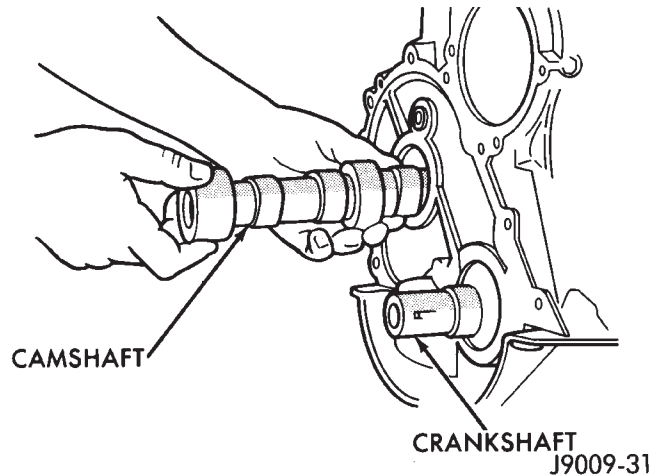

Fig. 43 Camshaft
- (11) Remove the vibration damper.
- (12) Remove the timing case cover.
- (13) Remove the timing chain and sprockets.
- (14) Remove the front bumper and/or grille, as required.
- (15) Remove the two thrust plate retaining screws, thrust plate and camshaft (Fig. 43).
- (1) Inspect the cam lobes for wear.
- (2) Inspect the bearing journals for uneven wear pattern or finish.
- (3) Inspect the bearings for wear.
- (4) Inspect the distributor drive gear for wear.
- (5) If the camshaft appears to have been rubbing against the thrust washer, examine the oil pressure relief holes in the rear cam journal. The oil pressure relief holes must be free of debris.
- (6) Lubricate the camshaft with Mopar Engine Oil Supplement, or equivalent.
- (7) Carefully install the camshaft to prevent damage to the camshaft bearings (Fig. 43).
- (8) Position the thrust plate and install the retaining screws. Tighten screws to 24 N·m (18 ft. lbs.).
- (9) Install the timing chain, crankshaft sprocket and camshaft sprocket with the timing marks aligned.
- (10) Install the camshaft sprocket bolt/cup washer. Tighten the bolt to 68 N·m (50 ft. lbs.).